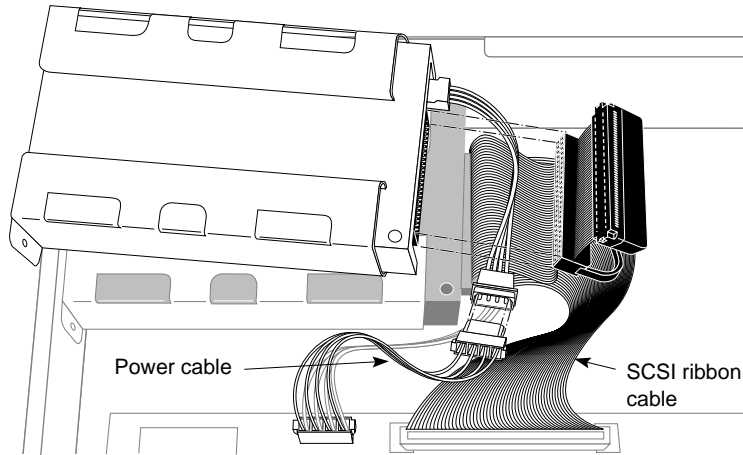

Figure 6-3 Power Cable to a Second Drive (Floptical Shown)
8. Connect an unused power cable to the drive. A floptical drive will have an adapter cable attached to it, as shown in Figure 6-3. For a second disk drive, attach the power cable directly to the receptacle on the drive.